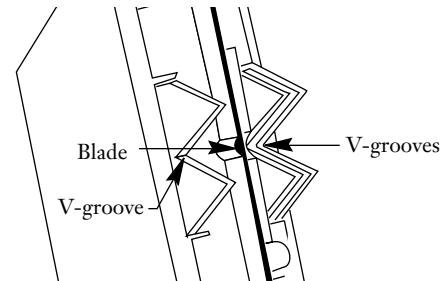

Figure 6
- Open the tool with its handles. Note the actual location of the blades in the blade housing (Figure 6).